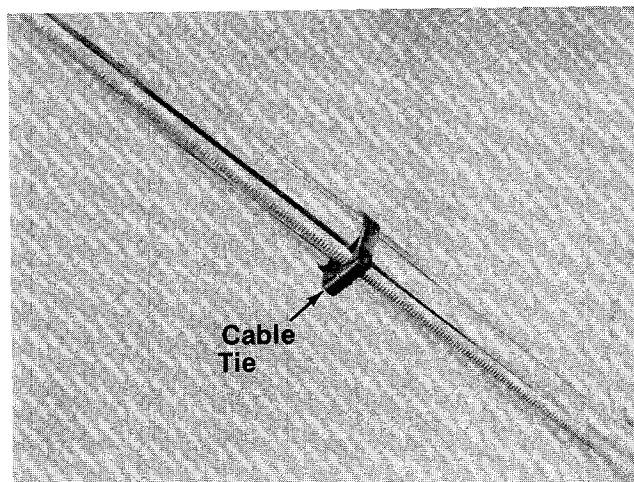

FIGURE 6.
7. Secure cables to upper and lower handles with cable ties (C) provided. See figure 6.